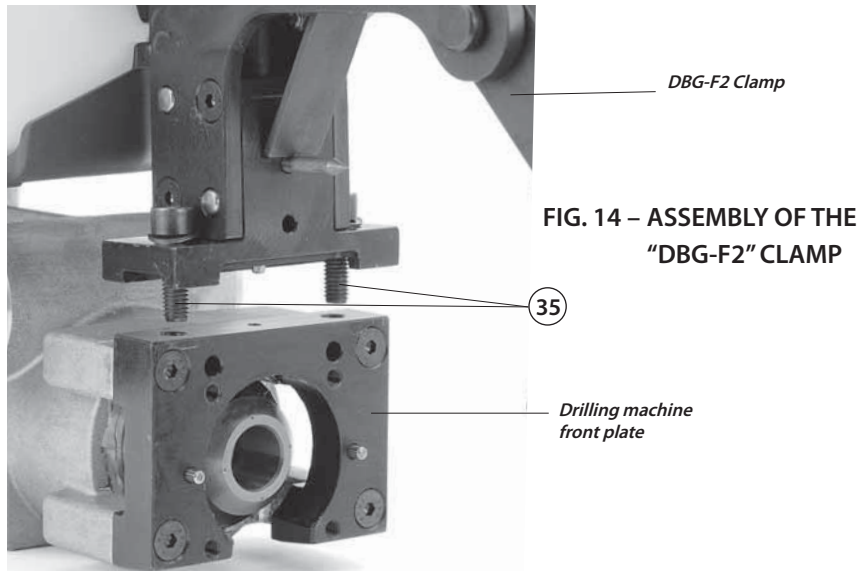

FIG. 14 – ASSEMBLY OF THE
The **DBG-F2** clamping device is fitted to the front plate of the drill, centred by means of the reference pin supplied and secured with the two socket head cap screws **M8x25** (35) also supplied. The assembly is illustrated in Fig. 14.